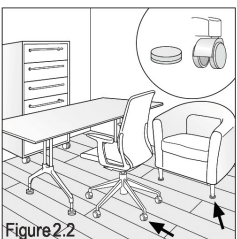

Figure 2.2
- To help guard against scratches and dents, install felt floor protectors under furniture legs. It is important they are changed on a regular basis to prevent dirt, debris buildup. (Figure 2.2).
- Rolling castors may damage the floor. Therefore, we do not recommend them. If you choose to use them, the rubber barrel-type or double wheel types are the best option. (Figure 2.2).